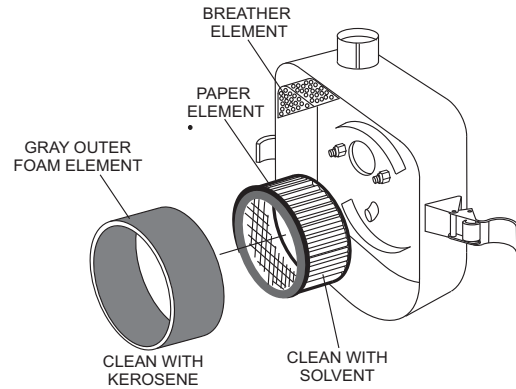

Figure 17. Engine Air Cleaner
- The air cleaner (Figure 17) should be inspected and cleaned on a regular basis at least once a week. Remove element, rinse in soapy water, squeeze and allow to air dry until completely dry before reinstalling.
- Carefully tap the paper filter element (Figure 17) several times on a hard surface until all dirt is removed then reinstall. **NEVER** brush off dirt. Brushing will force dirt into the fibers. Replace the paper filter element if it is excessively dirty.